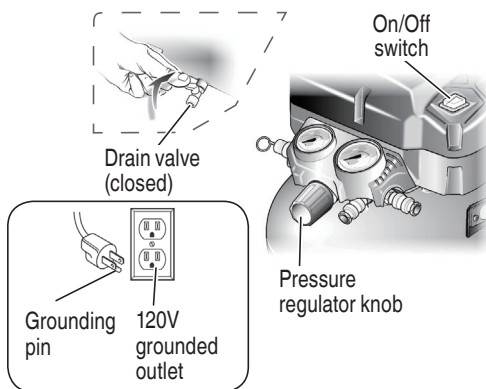

Fig. 6
- Ensure the tank drain valve is closed (Fig. 6).
- Ensure the ON/OFF switch is in the OFF (O) position and the air compressor is unplugged (Fig. 6).
- Ensure the pressure regulator knob is turned fully counterclockwise (Fig. 6).